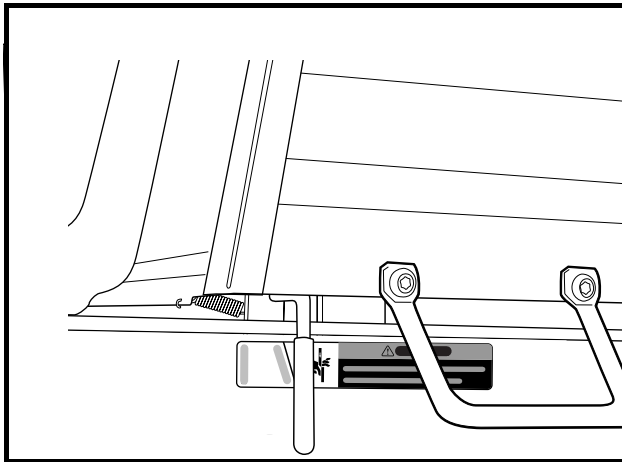
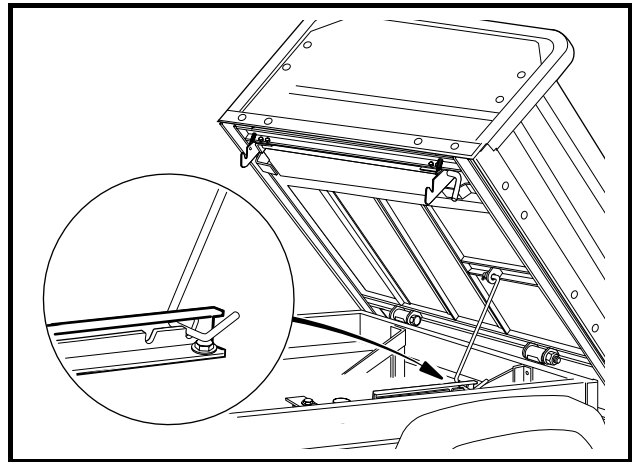

Figure 8 Bed Latch
Figure 9 Prop Rod
The bed latch (**Figure 8**) has an automatically engaging prop rod and prop rod track (**Figure 9**) as standard features. To lift the bed, pull the bed latch handle toward the rear of the vehicle and lift the bed. The prop rod will come to rest in one of the notches in the prop rod track. To close the bed, lift the bed so that the prop rod is no longer supported in one of the track notches. Push the prop rod toward the front of the vehicle to free it from the track notch and gently lower the bed. DO NOT drop the bed. **See following DANGER, WARNING, and NOTE.**
**NOTE:** HUV 4421-G and HUV 4421-D vehicles are equipped with an automatically engaging prop rod (Figure 9), unless equipped with the electric bed lift accessory.